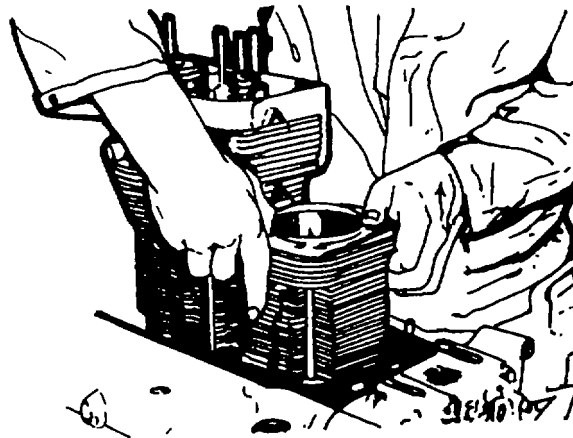

Figure 4-14. Removing the Cylinder
- b. Remove the cylinder (figure 4-14), taking care not to damage piston skirt.